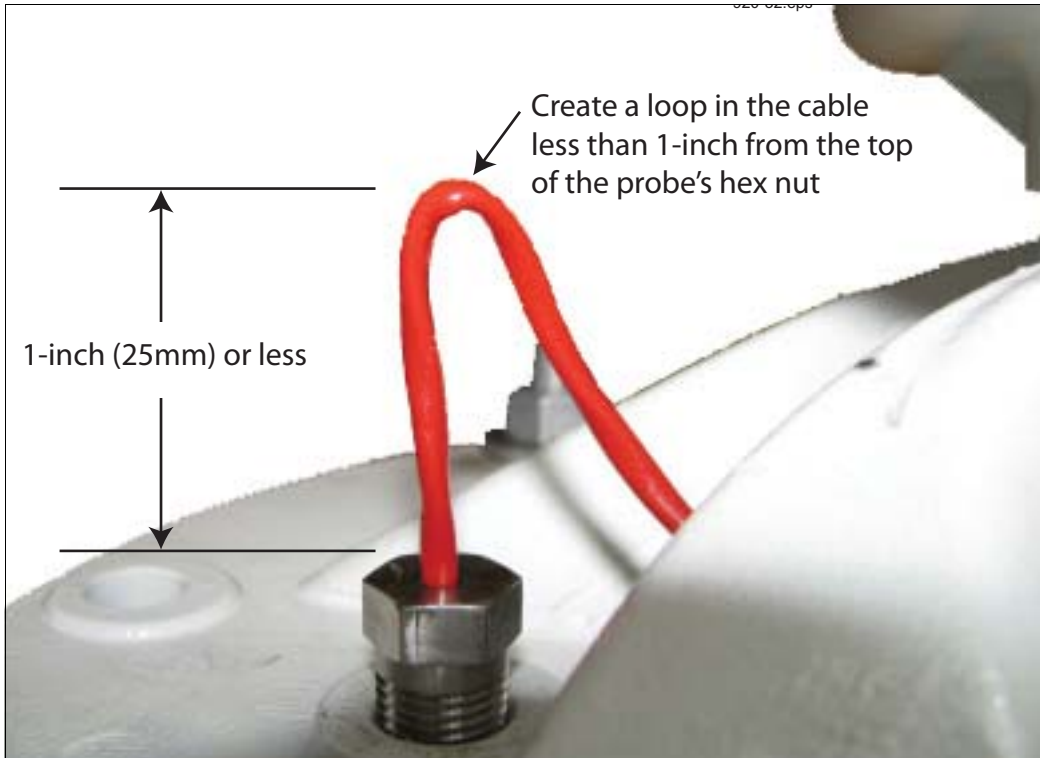

Figure 30. Preparing The Temperature Probe's Cable For The Protective Cap
5. Install the temperature probe's vinyl cap (P/N 514100-485) over the temperature probe cable by making a small bend in the cable no more than one inch above the probe's hex nut (see Figure 30).